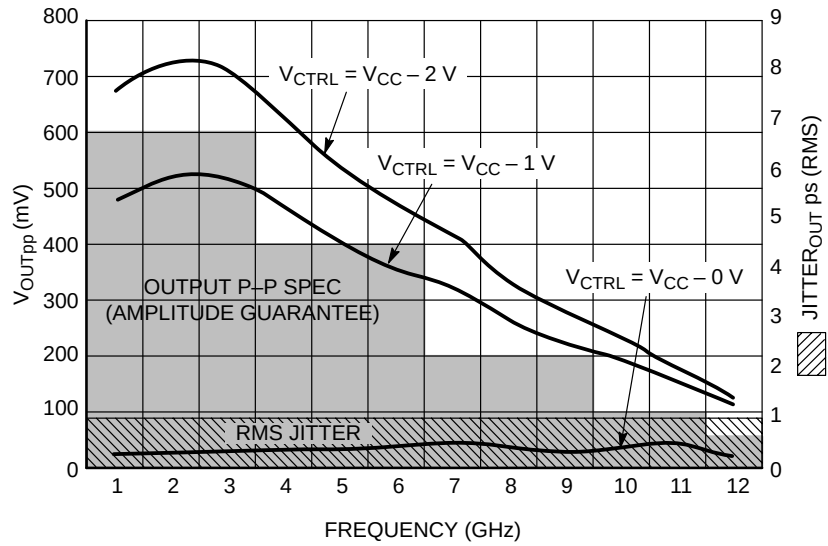

Figure 8. V_{OUT} /Jitter vs. Frequency
25. Conditions include input amplitude of 500 mV and $V_{CTRL} = V_{CC} - 2\text{ V}$. Minimum output amplitude guarantee of 100 mV (see Output P–P Spec in Figure 8).